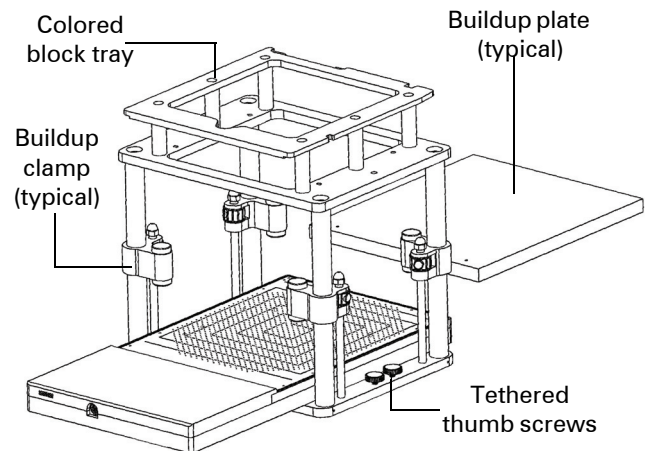

Figure 2. Installing instrument in IMF
- 3 Insert the instrument into the IMF (Figure 2) and align the four outer threaded holes in the bottom of the instrument with the matching holes in the bottom plate of the IMF.
- 4 Secure the instrument to the bottom plate with the four, 1/4-20, tethered thumb screws (Figure 2) furnished with the IMF. Do not use the screws from the leveling feet.
- 5 Insert the instrument into the IMF (Figure 2) and align the four outer threaded holes in the bottom of the instrument with the matching holes in the bottom plate of the IMF.
- 6 Secure the instrument to the bottom plate with the four, 1/4-20, tethered thumb screws (Figure 2) furnished with the IMF. Do not use the screws from the leveling feet.
- 4 Insert the instrument into the IMF (Figure 2) and align the four outer threaded holes in the bottom of the instrument with the matching holes in the bottom plate.
- 5 Secure the instrument to the bottom plate with the four, 1/4-20, tethered thumb screws (Figure 2) furnished with the IMF. Do not use the screws from the leveling feet.